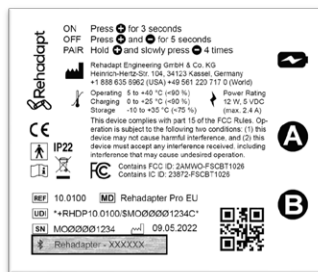

Figure 4.1 Device identification label ⑯ on the back of the Rehadapter™
4. Activate Pairing Mode: Press and hold one volume button ⑪ or ⑫ while slowly pressing the other volume button for 4 times one second each. When the status indicator starts blinking quickly in blue, let go of both buttons.
5. On the tablet, go to Bluetooth® settings, and tap the name of the Rehadapter™ (✱Rehadapter-XXXXXX as shown on *Fig. 4.1*). The Rehadapter™ is now paired with the tablet. The status indicator LED is solid blue.